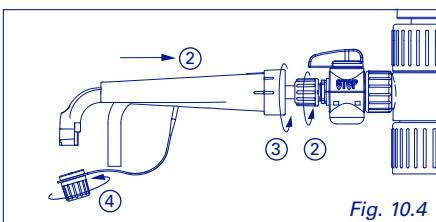

Fig. 10.4
③ Attach delivery jet to stopcock (Fig. 10.4)
③ Insérer le bec verseur (Fig. 10.4)